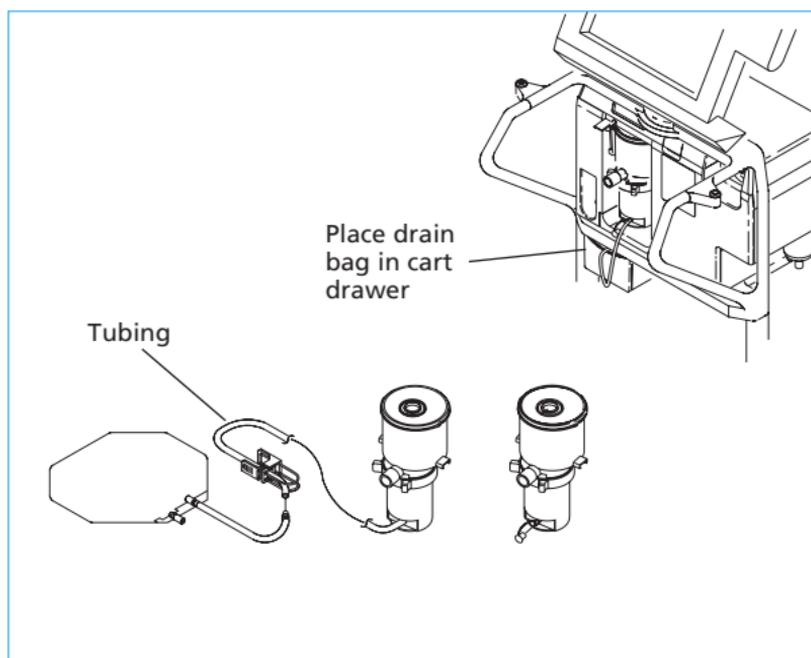

FIGURE 6.
- ⇒ Cap the collector vial drain port if you are not using the drain bag (see Figure 6).
- ⇒ If you are using the drain bag, install clamp on tubing. Uncap collector vial drain port and install tubing to collector vial drain port. Connect other end of tubing to drain bag. If the ventilator is mounted on the cart, place the drain bag in the cart drawer (see Figure 6). The drain bag is designed to lie flat, and is not designed to be suspended.